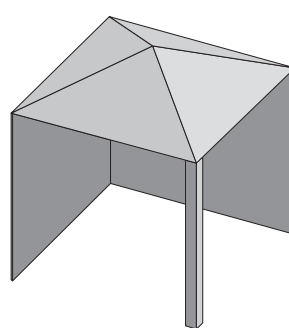

Fig. 2
- » The sidewalls may be parallel, as in a breezeway, or at right angles to each other. **(Fig 2 & Fig 3).**
4. If the burner will not ignite – turn burner control knob clockwise to the OFF position. Wait 5 minutes (Fig. 2). Repeat steps 2 and 3, or see "Alternative Ignition Instructions".